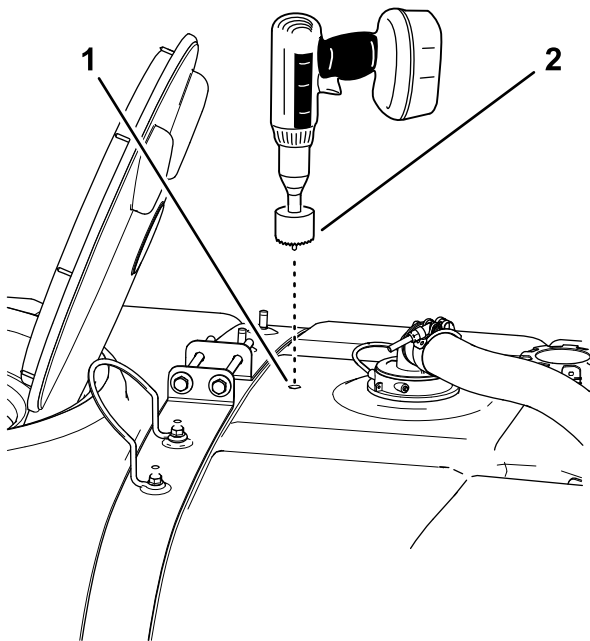

Figure 18
4. Use a hole saw 4.5 cm (1-3/4 inch) to make a hole at the drill mark (Figure 18).